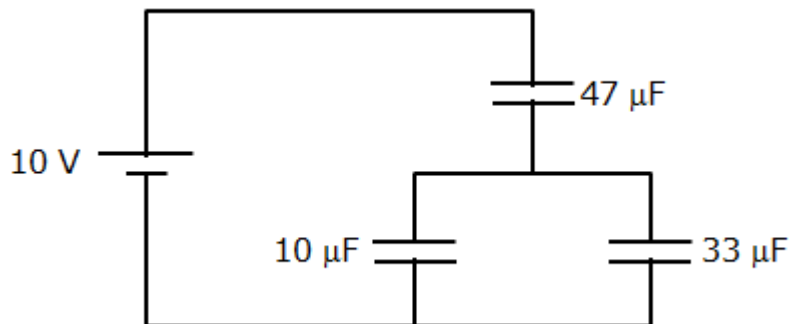

Fig. Q.1
1. Calculate the equivalent capacitance across the battery for the circuit shown in Fig. Q.1 and hence the charge stored by the circuit.